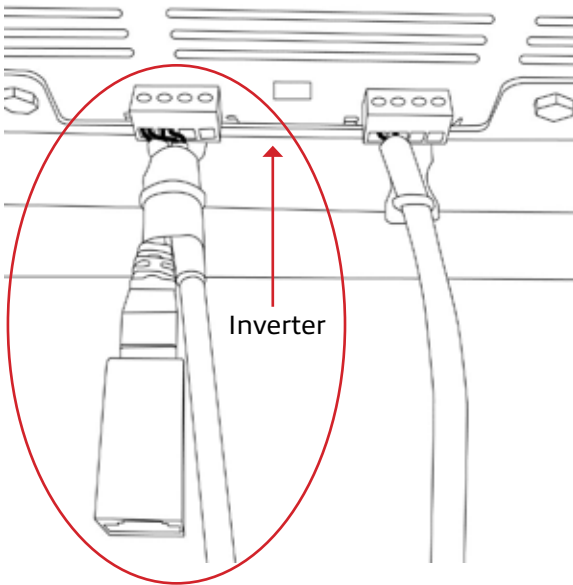

Figure 2: USB/RS485 cable with RJ45 connector and barrow
- ❑ Plug the RJ-45 male end of cable into the coupler on the USB RS-485 cable that connects to inverter (see Figure 2).